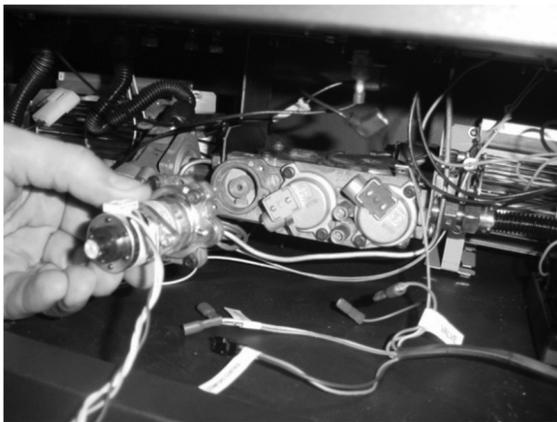

Figure 1
- (b) Remove and discard the Natural Gas (NG) orifice. Place the LP orifice in the pilot assembly then replace the pilot hood, tightening the pilot hood until it is snug (do not over-tighten).
4. Remove the control panel to access the gas control panel. The stepper motor (adjustable regulator) has an installation sheet included with it – make sure to follow all of the directions. Place the stepper motor on the gas control valve (see Figure 1) – **MAKE SURE IT IS CORRECTLY ORIENTED.** Secure using the screws included with the motor (see Figure 2) – tighten to 25 Lb-inches. Leak test this area after installation to verify proper installation.